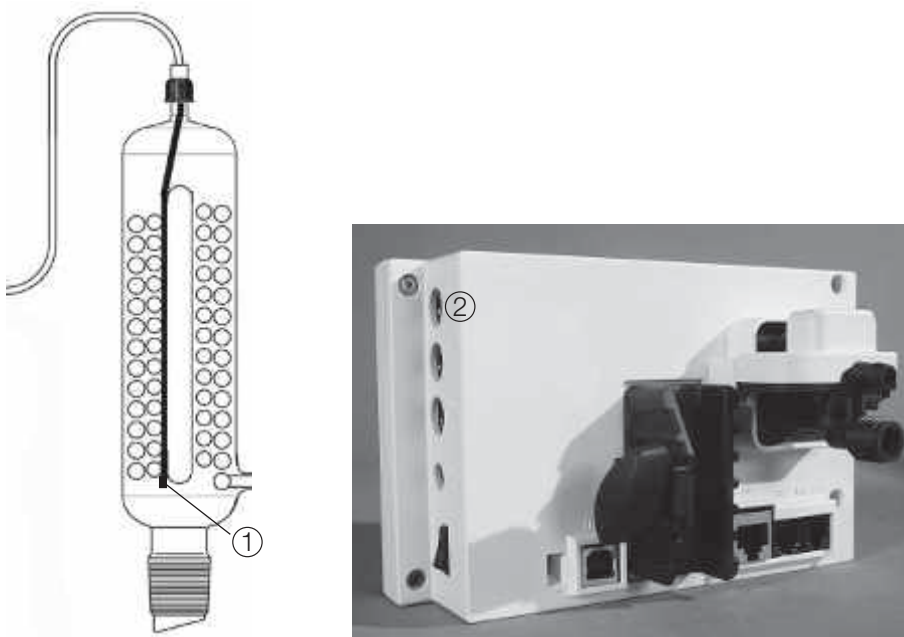

Fig. 5.3: Installing the AutoDest probe
- Position the probe as shown in Fig. 5.3. Make sure that the probe tip position corresponds to position ① in Fig. 5.3.
- Plug the cable of the AutoDest probe into the AS/SB socket of the controller (position ② in the figure above).